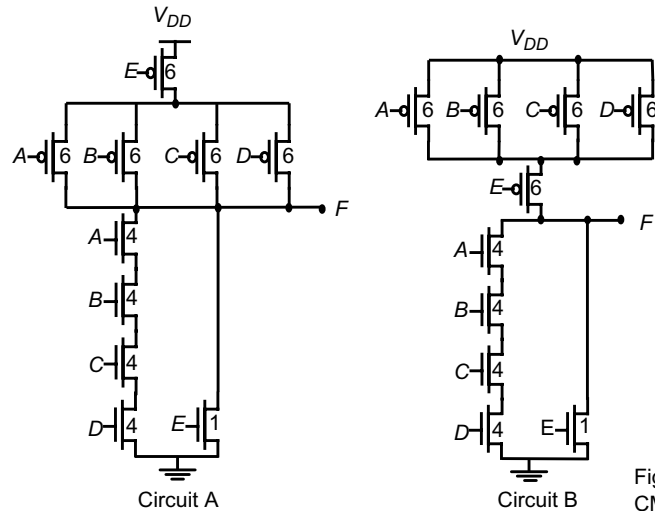

Figure 0.1: Two static CMOS gates.
- Do the two circuits in Figure 0.1 implement the same logic function? If yes, what is that logic function? If no, give Boolean expressions for both circuits.